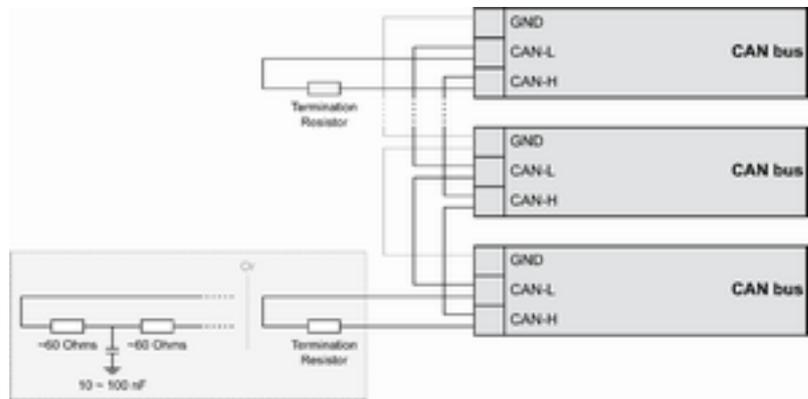

Fig. 57: CAN bus - termination
The termination resistor is connected between CAN-H and CAN-L (Fig. 57).
- Divide the termination resistance into 2x60 Ohms with a center tap connected to ground via a capacitor of 10 to 100 nF (Fig. 57).